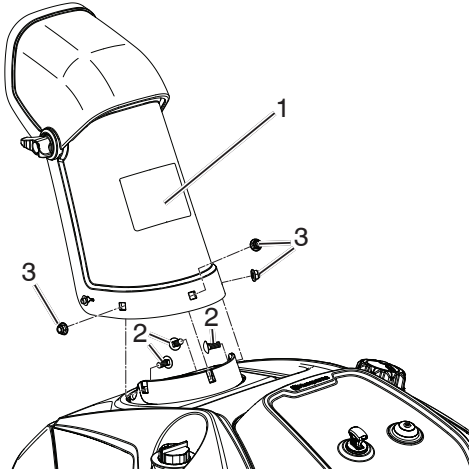

Figure 26
5. Remove the discharge chute by removing the three carriage bolts and three flange nuts (Figure 26).